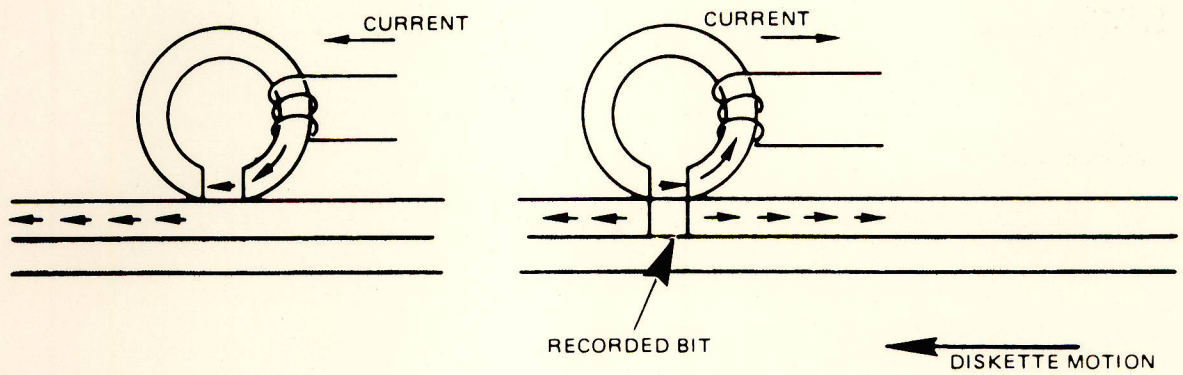

FIGURE 27 RECORDED BIT
4.3 During a write operation, a bit is recorded when the flux direction in the ring is reversed by rapidly reversing the current in the coil. The fringe flux is reversed in the gap and hence the portion of the flux flowing through the oxide recording surface is reversed. If the flux reversal is instantaneous in comparison to the motion of the diskette, it can be seen that the portion of the diskette surface that just passed under the gap is magnetized in one direction while the portion under the gap is magnetized in the opposite direction. This flux reversal represents a bit. See Figure 27.